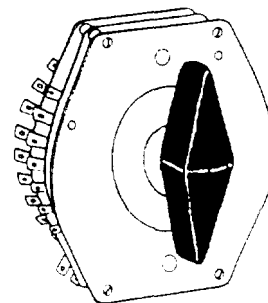
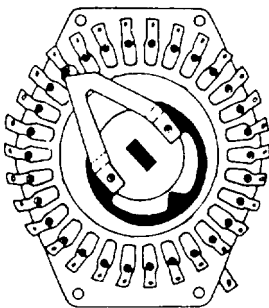

Figure 2-10.—Type JA switch.
Figure 2-11.—Type JA switch.
**TYPE JA.**— The JA switch (fig. 2-10) was developed primarily for circuit selection in sound-powered telephone applications. It provides a greater number of selections and is a smaller switch than the JR switch. The JA switch is furnished only with common rotor sections (as shown in fig. 2-11). Sixteen-position and 30-position JA switches permit selection of 16 and 30 circuits, respectively. With the JR switch, the maximum number of possible selections is seven.